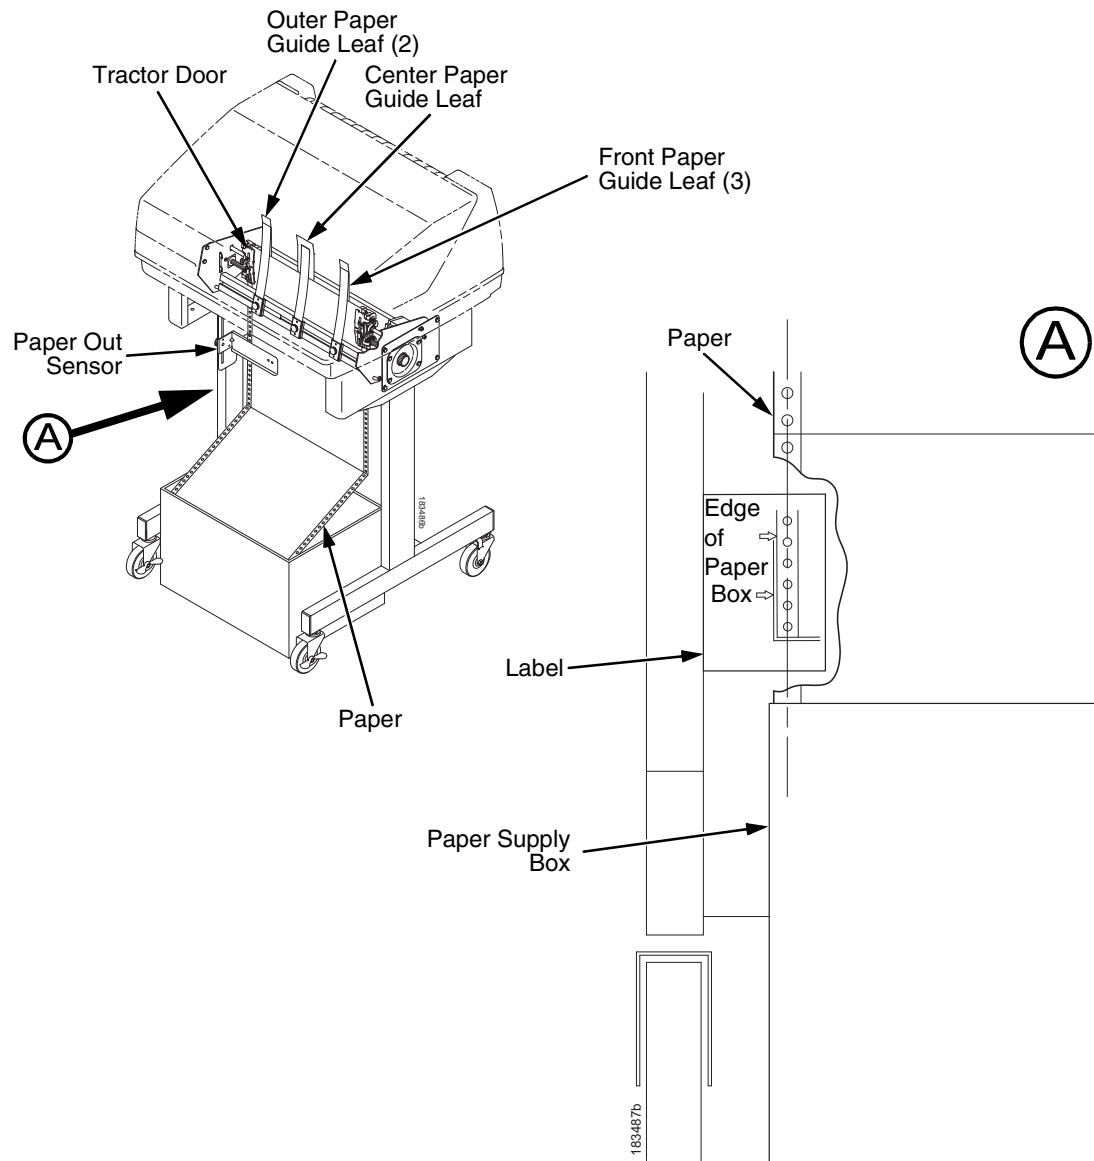
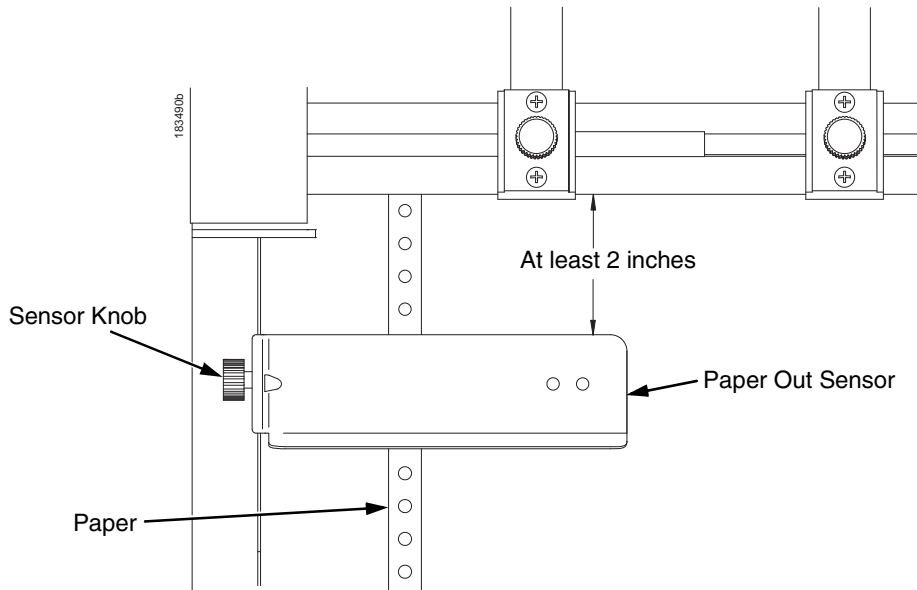

Figure 29. Loading Paper Onto The Printer
Figure 32. The Paper Out Sensor
1. Align the paper supply box with the label on the bottom left side of the modesty panel. (See Figure 29 on page 328.)
The paper out sensor indicates when the printer runs out of paper. (The sensor does not work with black backed forms.) Unlike the standard pedestal printer, the ZT printer requires you to load the paper through the paper out sensor slot (Figure 29 and Figure 32). Correct positioning of the paper out sensor ensures that the last form the printer prints will be properly presented to the tear bar. To position the paper out sensor, do the following: